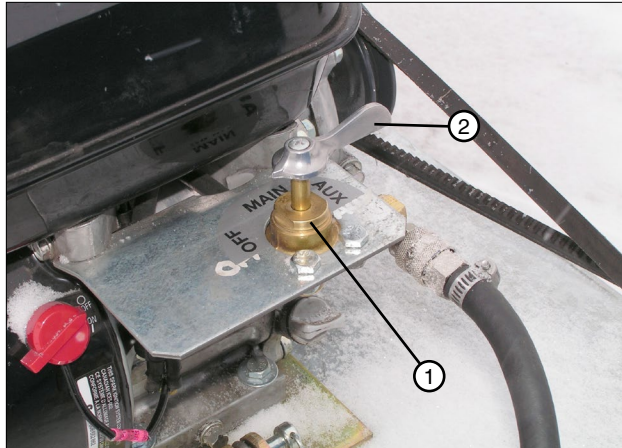

Figure 14-1 1. Tank Selection Fuel Valve
- OFF position, fuel from either fuel tank is prevented from flowing to the engine fuel valve. See figure 14-1.
- MAIN position, fuel from only the main fuel tank is allowed to flow to the engine fuel valve. See figure 14-1.
- AUX position, fuel from only the auxiliary fuel tank is allowed to flow to the engine fuel valve. See figure 14-1.